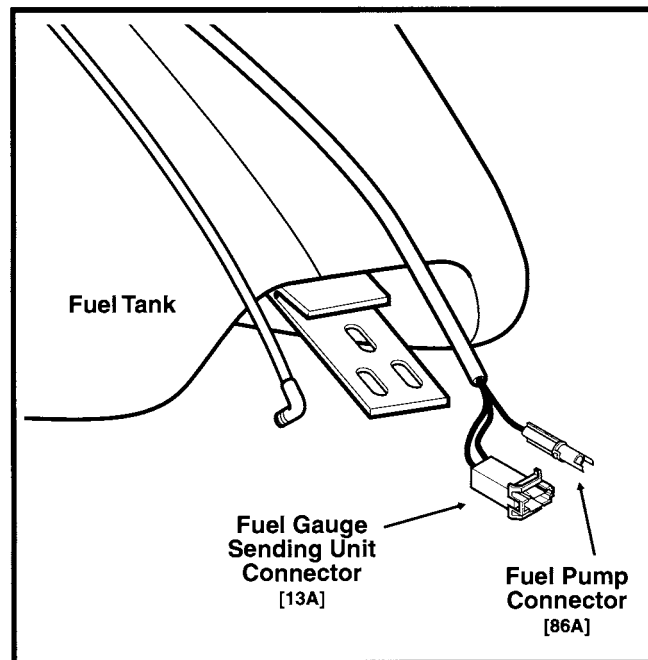

Figure 110. Fuel Pump Connector (FLTCU-I, FLHTC/U-I)
The fuel pump delivers fuel to the induction module and injectors and then to the pressure regulator, where the system pressure is controlled. Excess fuel flow is bypassed back to the fuel tank. When the engine is stopped, the pump can be turned on by applying battery voltage to the fuel pump connector [86A] or by using the Scanalyzer (see Scanalyzer Notes). The fuel pump connector is located under the seat at the rear of the fuel tank. See Figure 110. Improper fuel system pressure may contribute to one or all of the following symptoms.
- ① See Fuses, Removal, page 9-80 of the 1996 FLT Service Manual. If a fuse is blown, a short to ground is present between the fuse and fuel pump relay, between the fuel pump relay and fuel pump, coil or injectors, or the fuel pump itself may be the cause.
- ② Locate fuel pump connector and separate pin and socket halves. See Figure 110. Perform test to determine if the fuel pump circuit is being controlled by the ECM. ECM should energize fuel pump relay. Since engine is not cranking or running, ECM should de-energize relay within 2 seconds after ignition is turned on.
- ③ Turns on fuel pump if wiring is OK. If pump runs, problem is in basic fuel delivery.
- ④ See Fuel Pump, Removal/Installation, page 9-103 of the 1996 FLT Service Manual.
- ⑤ This test will determine if short to ground on fuel pump relay circuit caused the fuse to blow. To prevent misdiagnosis, ensure that fuel pump is disconnected before proceeding with test.
- ⑥ See Electrical Relays, Removal, page 9-80 of the 1996 FLT Service Manual. This test checks for a short to ground in the fuel pump relay harness circuit.
- ⑦ See Fuel Injectors, Removal/Installation, page 9-117 or Ignition Coil, Removal/Installation, page 9-125 of the 1996 FLT Service Manual.
- ⑧ See Console Pod/Canopy, Removal, page 9-100 of the 1996 FLT Service Manual, steps 5-9.